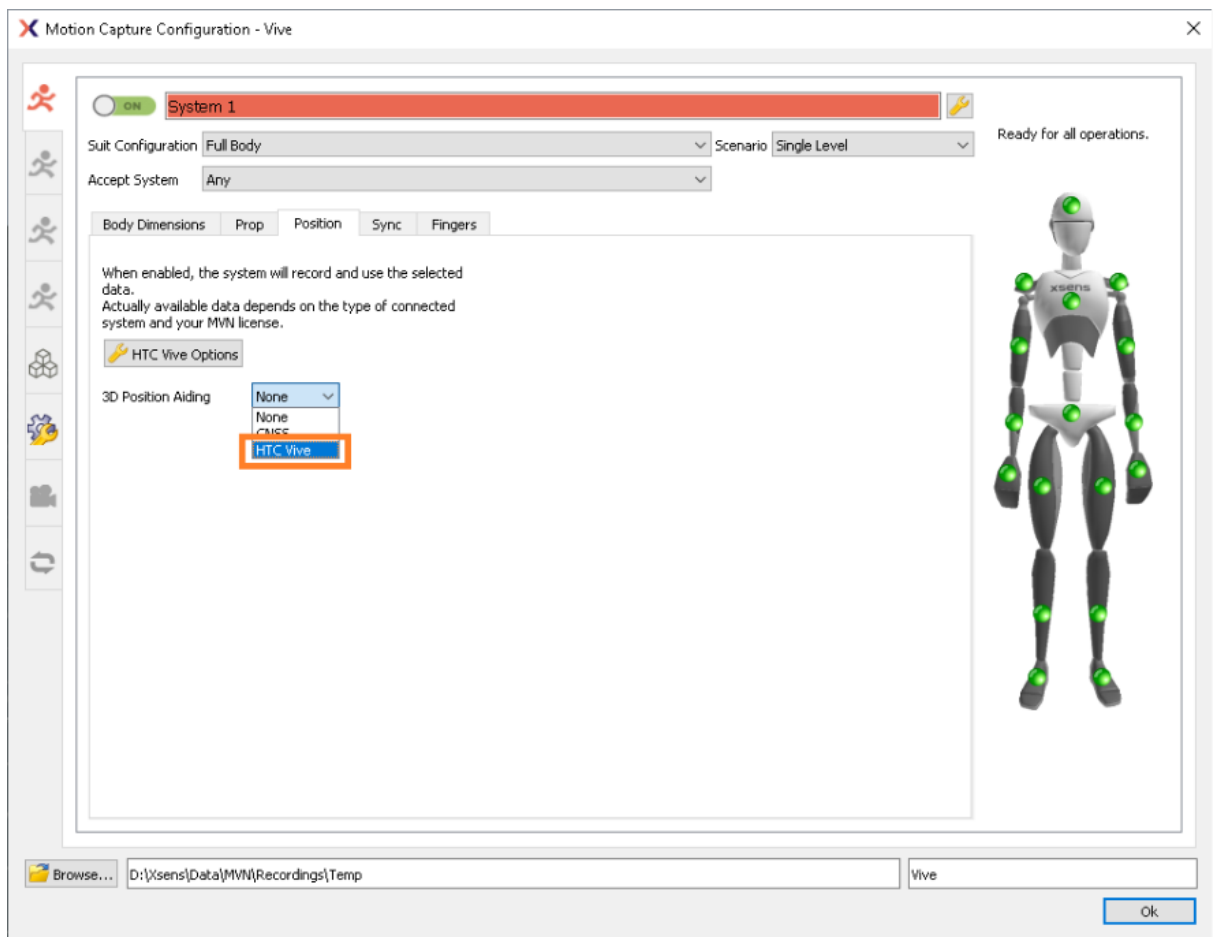

Figure 72: Motion capture configuration - Position - HTC vive
4. Select HTC Vive (Figure 72)